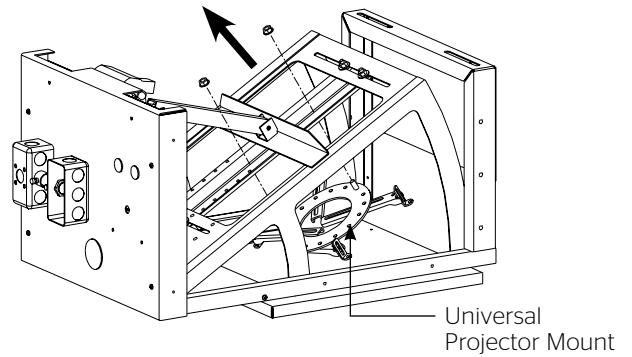

Figure 5
3. Remove Universal Projector Mount from Da-Lift. See Figure 5. Save the fasteners.